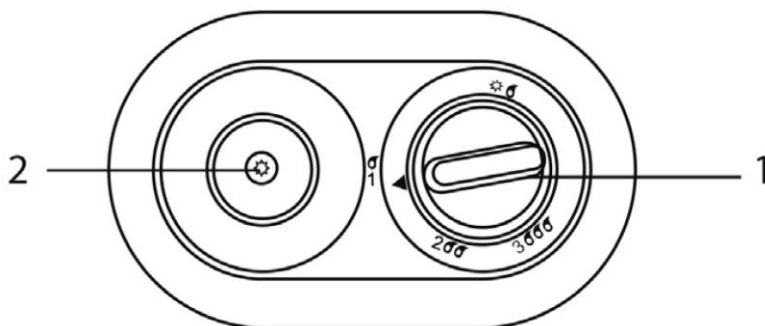

Fig. 2
2. Press and gently turn the gas adjustment knob on the control panel to the (1) position (Fig. 2). Continue to hold down the gas adjustment knob for 20-30 seconds. Press the piezo ignition button several times at a time until the gas burner lights up. Each time you press the piezo ignition button, you can hear a loud click and see a spark on the piezo ignition electrode. Continue to hold the gas adjustment knob pressed for 10-15 seconds from the moment the ignition torch ignites to activate the flame detector.